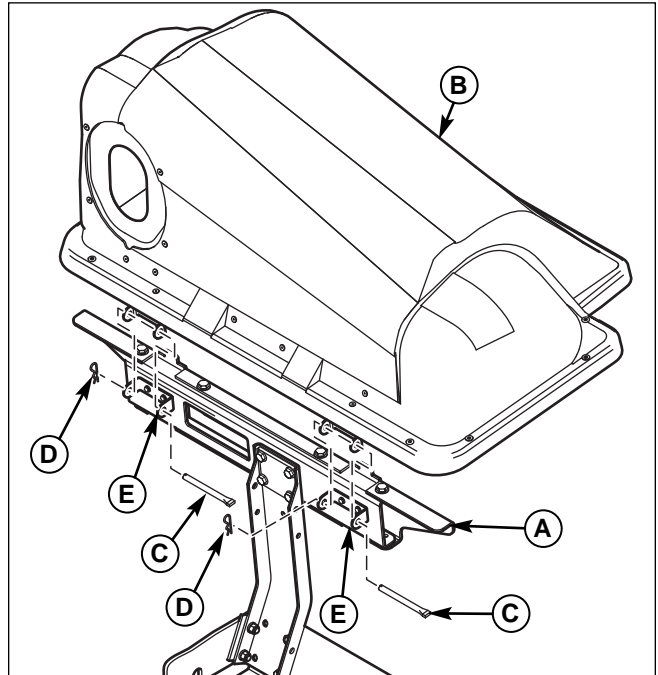

Figure 9. Install Cover Assembly
1. Attach cover assembly (B, Figure 9) to bag support bracket (A) using hinge pivots (E). Secure cover using cover hinge pins (C) and hair pins (D) as shown.
2. Remove hair pin clips (D) and pins (C) then remove cover (B) see Figure 9.
Note: To prevent loss of parts reinstall pins (C) and hair pins (D) in support assembly hinge pivots (E, Figure 9).